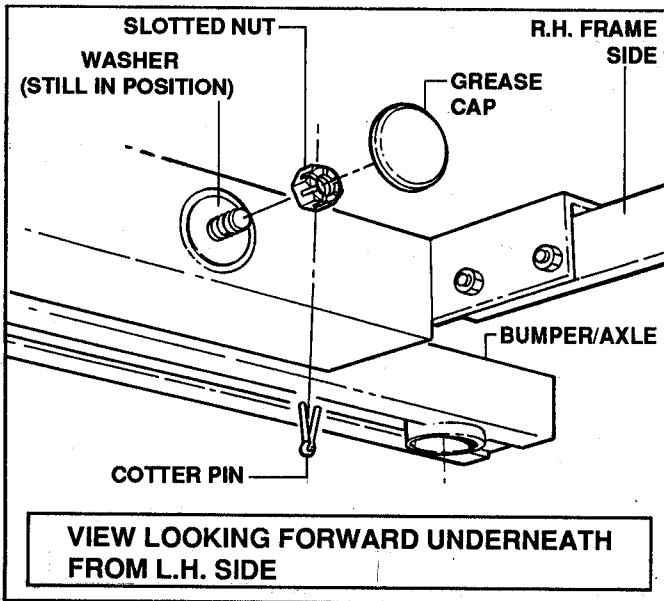

FIGURE 6.2
C. Pry off grease cap then remove cotter pin and slotted nut (These are located behind the front channel weldment. Refer to Figure 6.2).